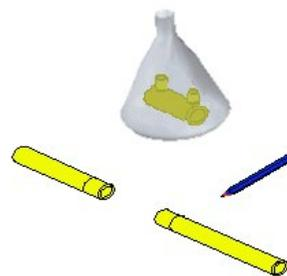

Figure D11 – Marking area to be scraped
10. Repeat for second pipe to be joined. Figures D11 & D12.